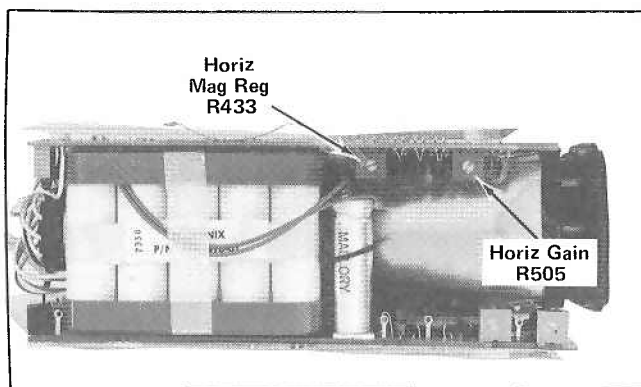

Fig. 5-8. Location of Horizontal Gain and Magnifier Registration adjustments.
f. Adjust Horizontal Gain adjustment R505 for a five-division display. See Fig. 5-8.
d. Adjust the Mag Regis adjustment R433 for less than one division shift from the 1X to the 10X position. See Fig. 5-8.